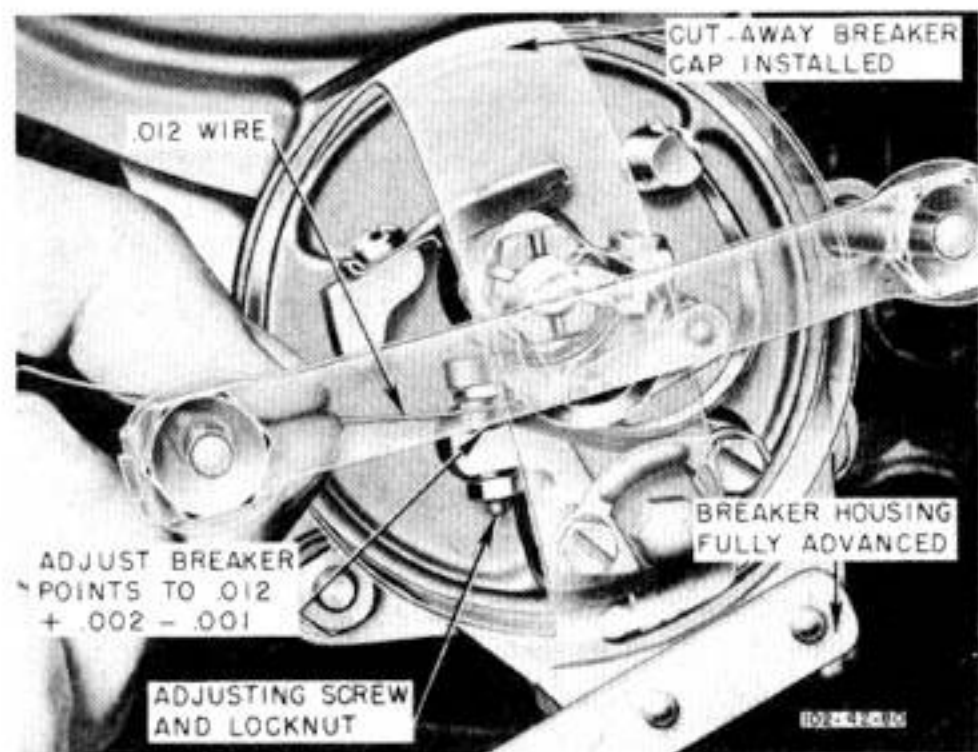

Figure 185—Checking Magneto Contact Gap
c. Check breaker contact gap. (See figure 185.) If gap is less than .011 inch or more than .014 inch, reset to .012 inch, using Packard wrench AT-8002 in engine tool kit to loosen or tighten locknut on adjustment screw.